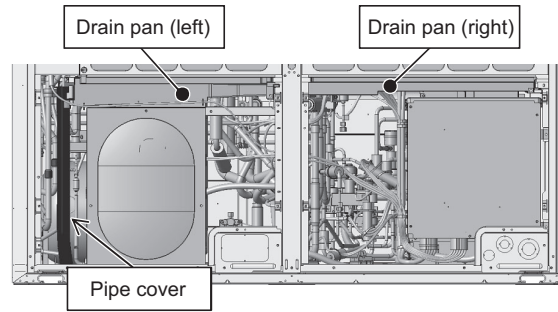

Figure 2
- (2) Remove the drain pan cover by unscrewing the screw and cutting the cable tie. (See Figures 2 and 3.)
When re-placing the drain pan cover after the completion of maintenance work, make sure that the silicon tube is properly placed on the defrost pipe, and then fix the drain pan cover in place with a cable tie. (Figures 2 and 3 show the cable ties to be cut.)
- (3) Remove the drain pan by unscrewing the two screws. (See Figure 2.)
- (3) Remove the cable straps holding the weak and strong electrical wirings. (See Figure 2.)
- (5) Remove the drain pan cover by unscrewing the screw and cutting the cable tie. (See Figures 2 and 3.)
- (6) Remove the drain pan by unscrewing the two screws. (See Figure 2.)
Be sure to remove the two rod holders holding the check joints to the drain pan. (Figures 2 and 3 show the cable ties to be cut.)